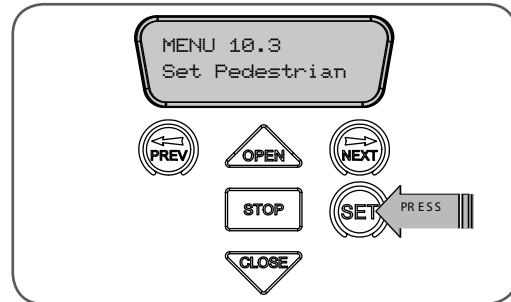

fig 45
5. Press SET on the logic console to save the Pedestrian Access position (**Fig. 45**).